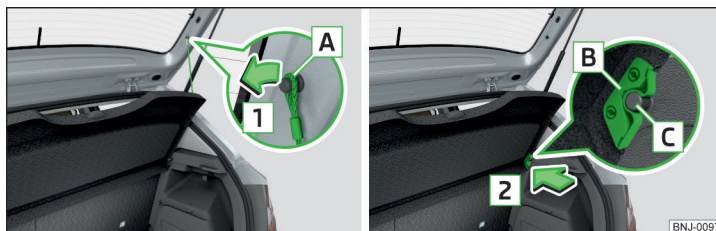

Fig. 107 Remove the luggage compartment cover
If the support straps **A** » Fig. 107 are attached to the boot lid, then opening the lid will raise the boot lid cover (hereafter referred to as cover).
- On both sides of the boot lid, unhook the straps **A** in the direction of arrow **1** » Fig. 107.
- Place the fixtures **B** on the cover above the brackets **C** on the side trim » Fig. 107.
In the front area, slots **[B]** » Fig. 107 on page 83 on the cover must be fully engaged with the mounts on the side trim. In the back, the cover must be secured at both ends under the latching.